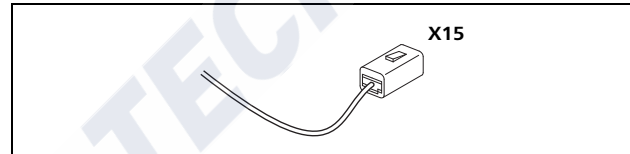

Fig. 49 Connector for CO₂ calibration
- Use X15 connector for CO₂ calibration (only for Webasto service workshops). See Fig. 49.